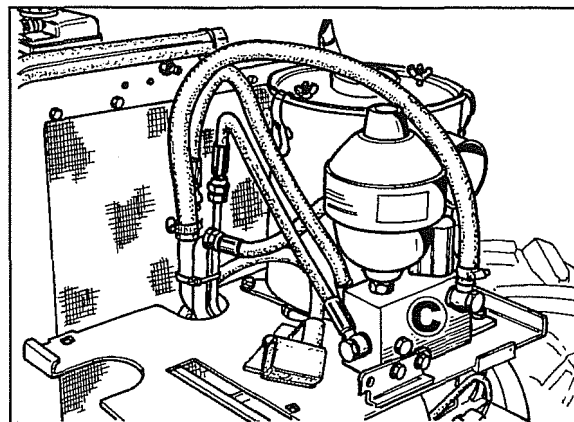

Fig. 6
4. (For the Max version) Disconnect the proportional solenoid valve ass'y **C** fig. 6 from its mounting and tip it back behind the radiator